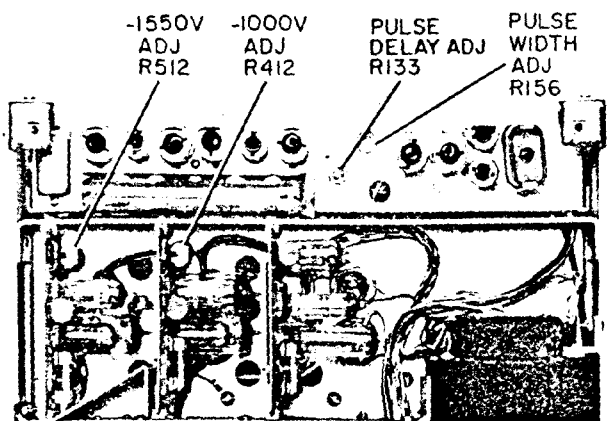

Figure 5-7. Location of Power Supply and Modulator Adjustments
e. Adjust potentiometer R412 (Figure 5-7) for -1000 ± 20 volts. Line voltage regulation ($115 \text{ V} \pm 10\%$) should hold the -1000 V supply to within $\pm 5 \text{ V}$; ripple should be less than 10 mV , p-p. The -300 V supply could track the -1000 V supply to $-300 \pm 10 \text{ V}$. Line voltage regulation ($115 \text{ V} \pm 10\%$) should hold the -300 V supply to within $\pm 5 \text{ V}$; ripple should be less than 10 mV , p-p.
g. Adjust potentiometer R512 (Figure 5-7) for $-1550 \pm 20 \text{ V}$. Line voltage regulation ($115 \text{ V} \pm 10\%$) should hold the -1550 V supply to within $\pm 5 \text{ V}$; ripple should be less than 15 mV , p-p.
d. Adjust potentiometer R133 (Figure 5-7) to give a delay of 300 μ s as measured on the calibrated Oscilloscope.